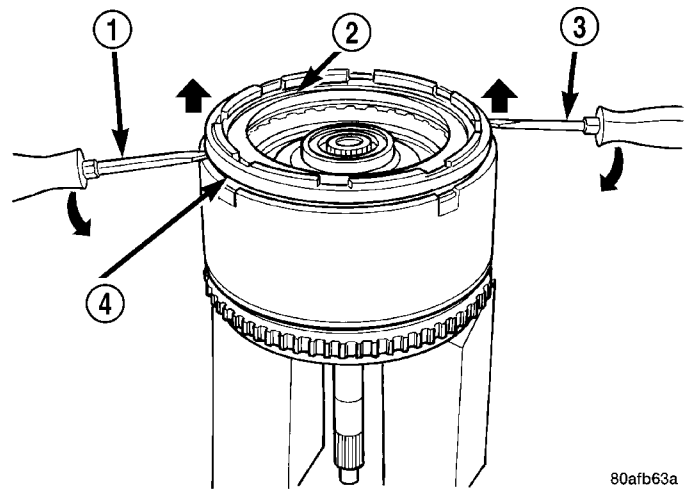

Fig. 270 Pry Up Reaction Plate to Seat Against Snap Ring
(31) Pry up reverse reaction plate to seat against snap ring (Fig. 270).